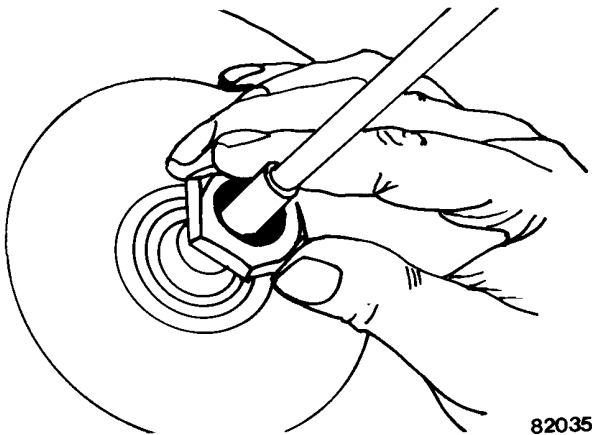

FIGURE 3-20. VALVE STEM INSTALLATION
7. Position name plate over valve stem and install valve stem nut by hand (Figure 3-20). Remove bladder pull rod.